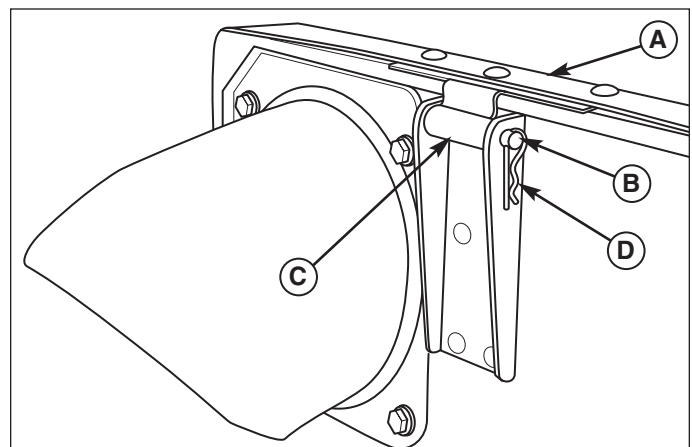

Figure 14. Install Hinge Pins
3. See Figure 14. Install the hinge pins (B) through the hinges (C) and secure with a hair pin clip (D).